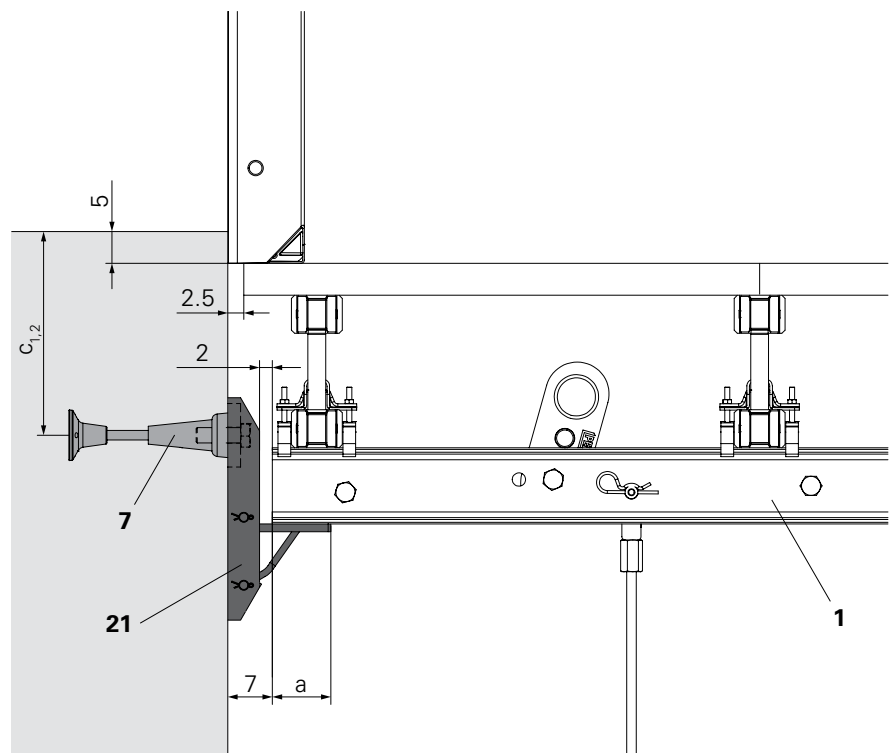

Fig. A1.04
- Pay attention to the minimum distances  $c_{1,2}$  of the anchor used, see Section "A2 Anchoring". (Fig. A1.04)